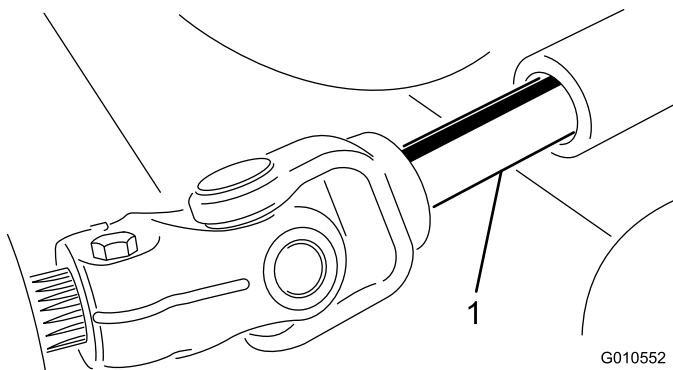

Figure 22
- Roll the cutting unit away from the traction unit, separating the male and female sections of the PTO shaft (Figure 22).
- Slide the male PTO shaft into the female PTO shaft (Figure 22).